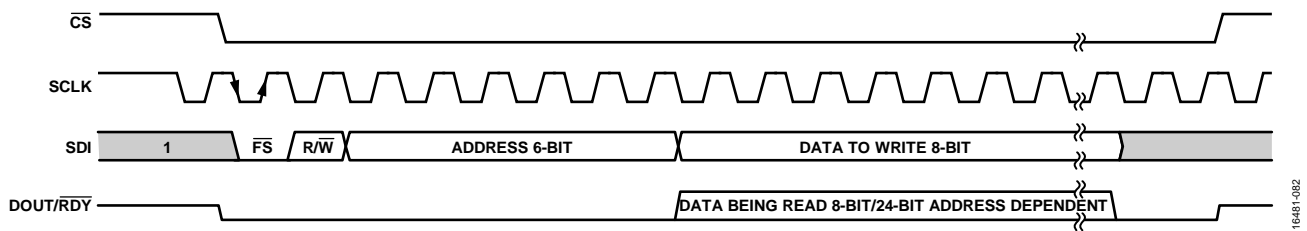

Figure 86. SPI Basic Read/Write Frame
The format of the SPI read or write is shown in Figure 86. The MSB is the first bit in both read and write operations. An active low frame start signal ( $\overline{\text{FS}}$ ) begins the transaction, followed by the R/W bit that determines if the transaction being carried out is to a read (1) or a write (0). The next six bits are used for the address, and the eight bits of data to be written follow. All registers in the AD7768-1 are 8 bits in width, except for the ADC\_DATA register (Register 0x2C), which is 24 bits in width. In the case where  $\overline{\text{CS}}$  is tied low, the last SCLK rising edge completes the SPI transaction and resets the interface. When reading back data with  $\overline{\text{CS}}$  held low, it is recommended that SDI idle high to prevent an accidental reset of the device where SCLK is free running (see the Reset section).